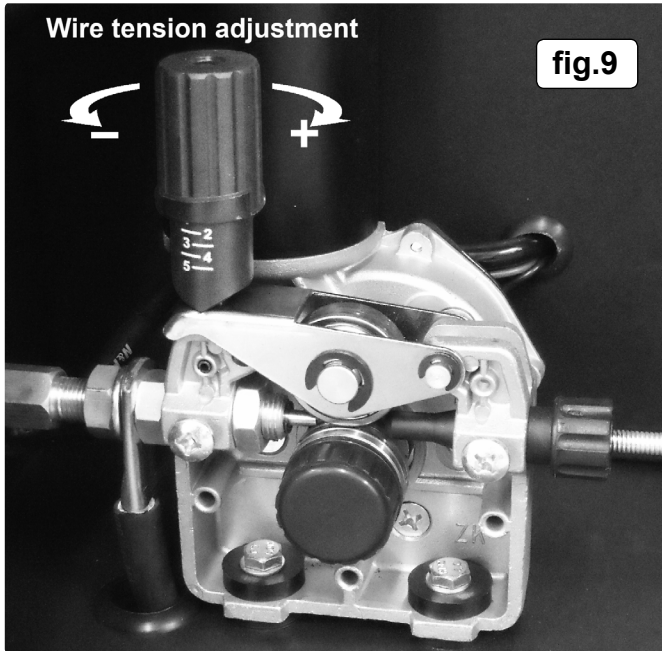
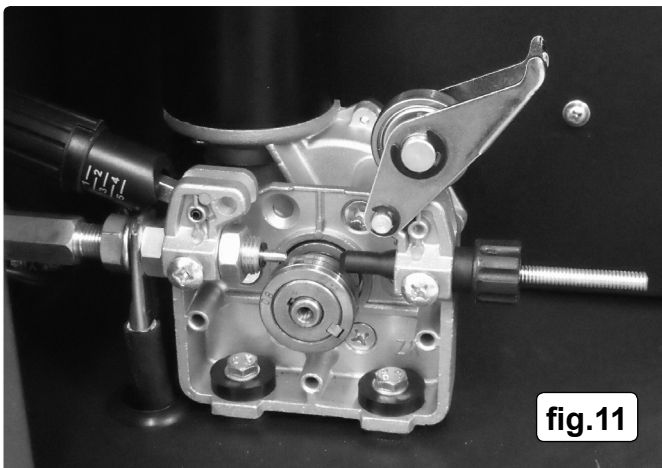

fig.9
fig.11
6.1 The wire feed mechanism has a lower grooved drive roller and an upper pressure roller. The pressure roller is in a separate hinged housing which is held in place and acted upon by a pressure adjustment knob as shown in fig.9 above. To access the drive mechanism pull the pressure adjustment knob over to the left and allow it to hinge downwards. As you do so the pressure roller housing will spring open to the right as shown in fig.11 below.
6.1.3 When changing from $\varnothing 0.8\text{mm}$ to $\varnothing 1.0\text{mm}$ wire it will be necessary to reverse the position of the roller on its carrier. Firstly unscrew and remove the black knurled knob that holds the roller and its carrier in position (see fig.11).
6.2.1 Close and hold down the pressure roller housing then hinge the pressure knob upwards and onto the housing until it snaps into position. Set an intermediate pressure between marks 2 and 3. Turning the knob clockwise increases the pressure. Turning the knob anti-clockwise decreases the pressure. (See fig.9).
6.4.1. Tension between rollers is checked by slowing down the wire between your fingers. If the top feed rollers skid the tension is correct. Use as low a tension as possible, too high a tension will deform wire and result in a blown fuse on the printed circuit board. Adjust tension by turning the pressure knob as shown in fig.9.